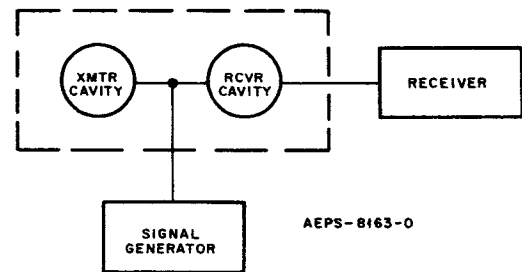

Figure 9. Method 2 Receiver Branch Pass Test Set-Up
Step 4. Connect the equipment as shown in Figure 9.